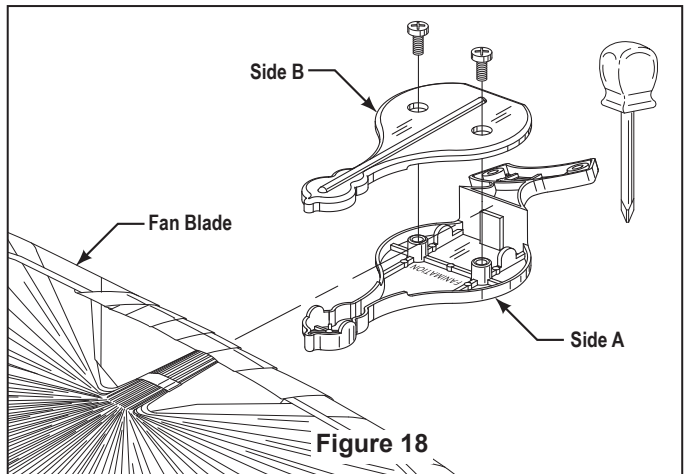

Figure 18
6. Tighten both screws to secure the blade. (Figure 18)